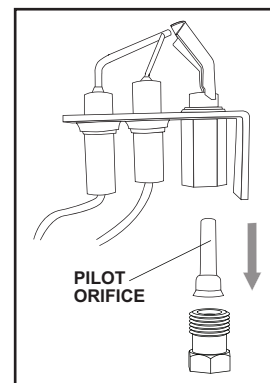

FIG. 3
8. Remove the two screws securing the pilot in place. Using a backup wrench, remove the pilot tube from the bottom-side of the pilot (**Fig. 3**). Remove the pilot orifice and replace with the one supplied. Reattach the pilot tube and pilot assembly.